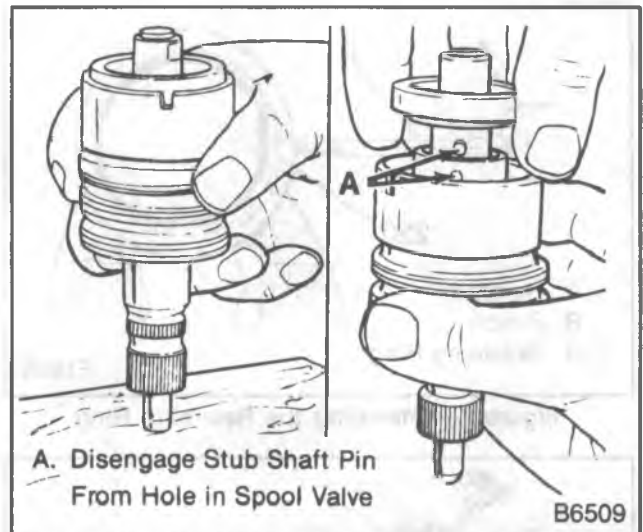

Figure 10—Removing or Installing the Stub Shaft Assembly
- 15. Stub shaft (251) from valve body (250) (figure 10).
- 3. Ball guide (212), clamp (211) and screws (210) to the rack piston (214).
- 4. Stub shaft (251) into the valve body (250) (figure 10).
- Lubricate the stub shaft (251) with power steering fluid.
- 5. Valve spool (252) and seals (230, 231) into the valve body (250).
- Lubricate the valve spool (252) and seals (230, 231) with power steering fluid before assembling.
- 6. Valve body (250), seal (249), wormshaft (248), bearing races (246) and roller bearing (247).
- 7. Seal (239) on the adjuster plug (240).